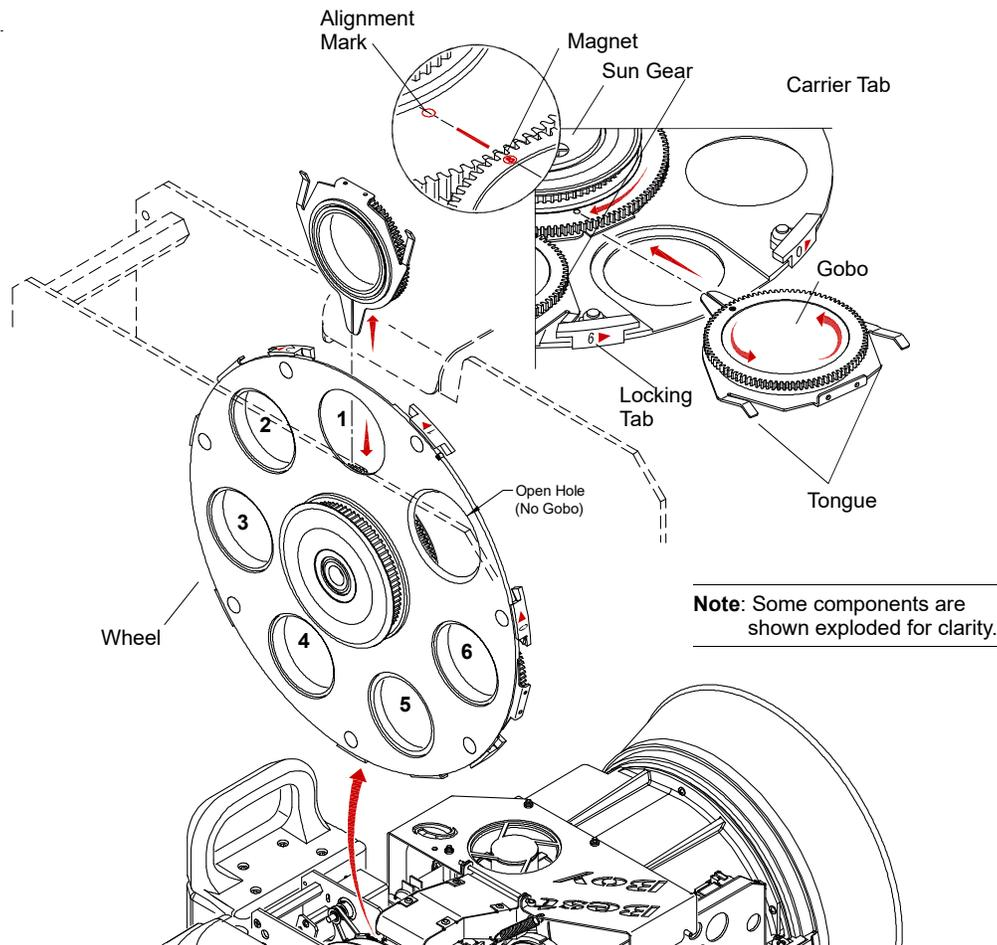

Figure 3-12: Replacing a Gobo (Wheel 1)
- Step 3. Using fingers, grasp frame of each gobo and pull out of wheel (**Figure 3-12**). Remove ALL gobos.
- Align gobo's magnet with alignment mark on sun gear as shown in **Figure 3-12**.